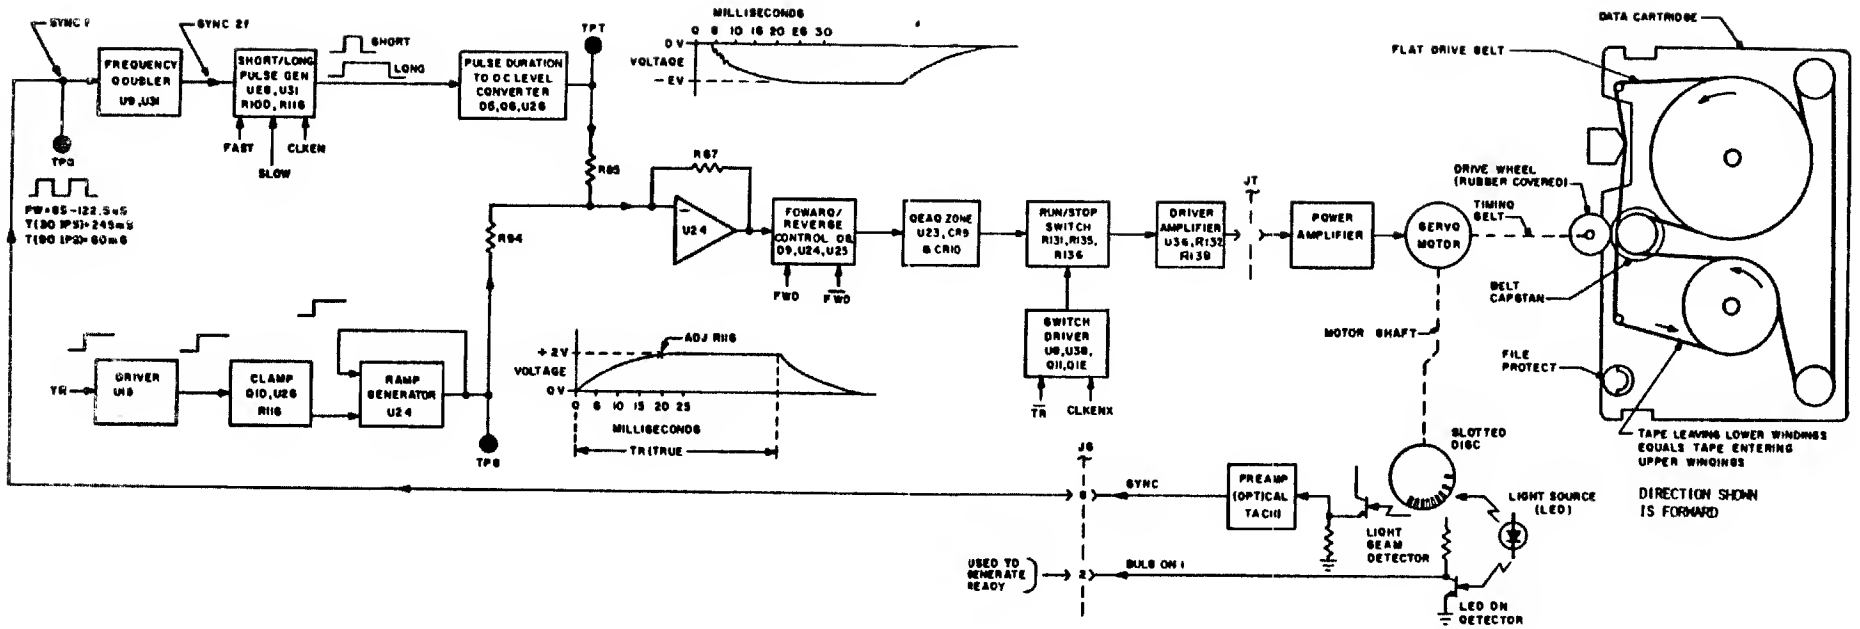

Figure 5-1. Servo System, Block Diagram
The servo system has been specifically designed to drive a data cartridge. A block diagram of the servo systems engaged with a data cartridge is shown in figure 5-1. The tape in the data cartridge is accelerated by the servo from 0 to 30 ips in 27 ± 2 ms for read/write operations, and from 0 to 90 ips in 75 ± 5 ms for fast forward and rewind operations. Once at speed, it is held constant by the servo until a command to decelerate is received.
- a. CLKEN is made up of tape run (TR) plus an 8 to 14 ms delay. It allows tape motion circuits to decelerate tape motion after TR goes false (stop time) dynamically.
5.3.1.3 Operation (Fig. 5-1 and 9-5)
When TR goes true, driver U15 moves FET switch Q10 into conduction. The FET switch clamps the inverting input of U25 to the clamp voltage set by potentiometer R116. The gain of U25 is -1. Whatever voltage (typically -2 volts) is set by R116 will appear as a positive one (typically +2 volts) at the output of U27 (also the output of the clamp block in figure 5-1).